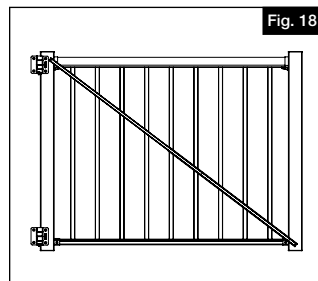

Fig. 18
- On one side of gate, extend the first brace across gate to the uprights, noting one side will be adjacent to hinge (Fig. 18).